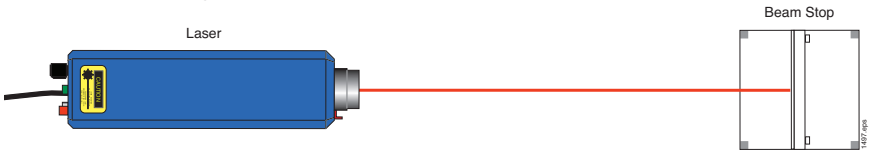

Figure 13. Overhead view of the equipment setup for determining the type of polarized light your laser produces.
2. Collect all of the items listed in the EQUIPMENT NEEDED section. Position all the items as shown in Figure 13. Place the white side of the beam stop facing the laser beam so the beam will strike it in the center.